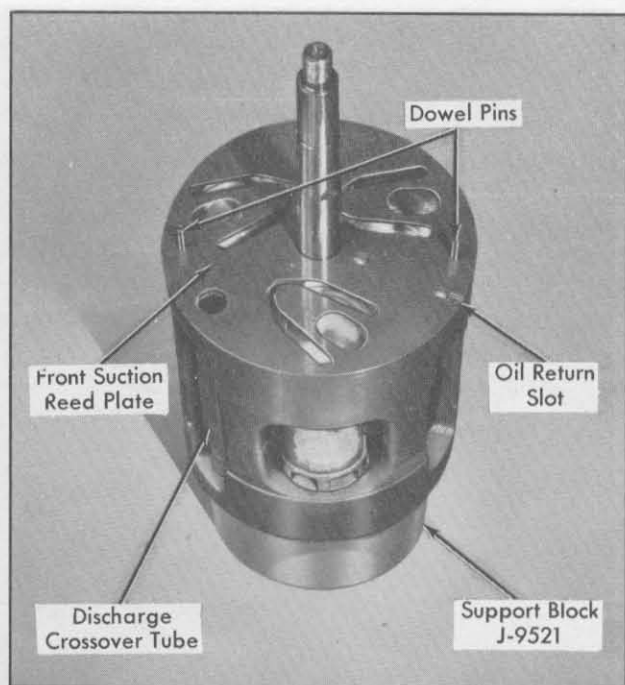

Fig. 1-92 Installing Front Suction Reed
4. Install front suction reed plate on front cylinder half. Align with dowel pins, suction ports, oil return slot, and discharge cross-over tube, Fig. 1-92.